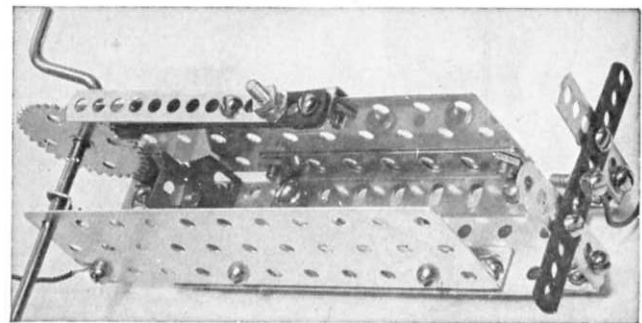

Fig. 2
By referring to Figure 2, the spring assembly is fastened to the side plate with 2 (CH) right angles. The spring assembly is built with a (BY) 11 hole fibre strip across the two right angles and an (H) 11 hole strip fastened to the fibre strip.